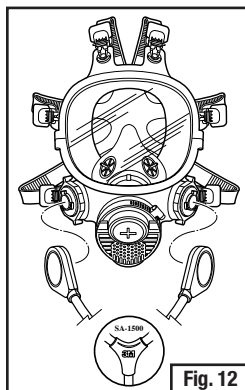

Fig. 12
4. Align the two branches of the breathing tube over the bayonet mounts on the facepiece. For the 3M™ Dual Airline Breathing Tubes SA-1500 or SA-1600, make sure that the 3M logo on the breathing tube and front of the facepiece are both facing towards you. For the 3M™ Dual Airline Breathing Tubes SA-2500 or SA-2600, make sure that the 3M logo on the breathing tube is facing in the opposite direction to the 3M logo on the front of the facepiece (Fig. 12).